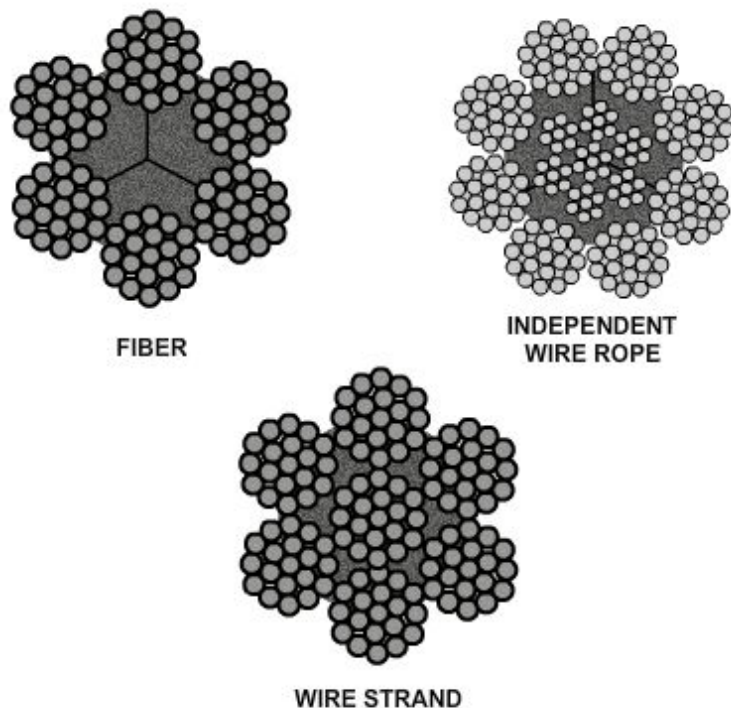

Figure 12-22 — Core construction.
- **Independent wire rope core (IWRC)** is a separate wire rope over which the main strands of the rope are laid. This core strengthens the rope, provides support against crushing, and supplies maximum resistance to heat. Refer to *Figure 12-22*.